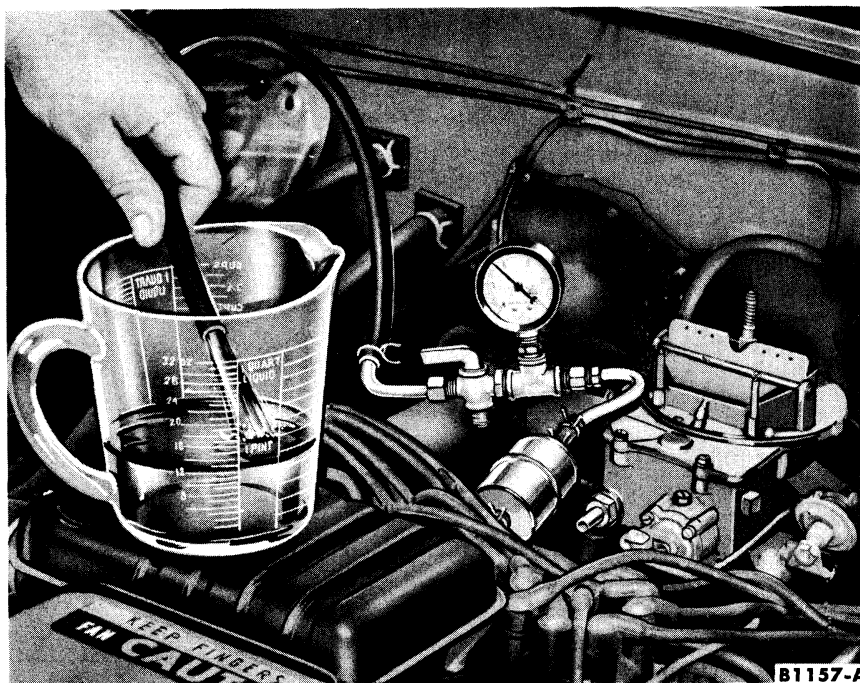

FIG. 12—Fuel Pump Pressure and Capacity Test
17. Check Fuel Pump Pressure And Capacity. Disconnect the fuel line at the carburetor. Install a pressure gauge (0-15 psi) and a petcock on the carburetor fuel inlet line (Fig. 12). Vent the system, by opening the petcock momentarily, prior to taking a pressure reading. Operate the engine at the specified rpm. After the pressure has stabilized, it should be within specifications (Table 4).